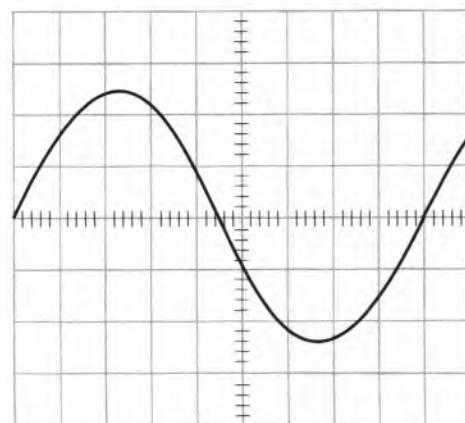

Figure 8c
1. Adjust the *Horizontal Sweep* control (the seconds/div knob) so that one cycle of the input signal fills as much of the screen as possible without being too spread out (see Figure 8c below)